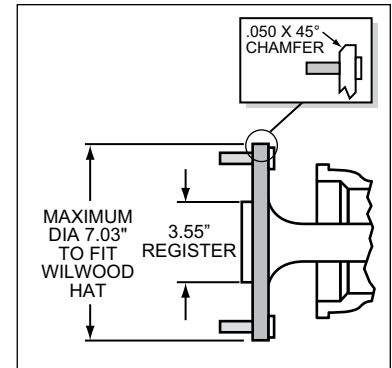

Figure 3.
- Axle center register diameter is 3.55", Figure 3.
- Maximum axle flange diameter must be no larger than 7.03" w/.050" x 45° chamfer, Figure 3.